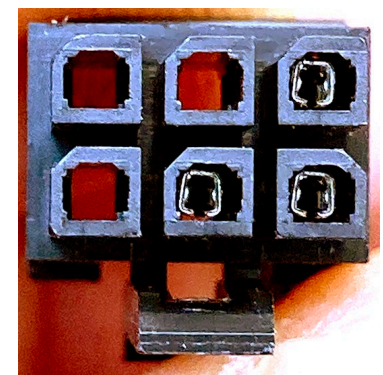

Figure 9
- Using electrical contact cleaner, clean the contacts on **BOTH** ends of the CAN 8076441 cable that connects both controllers (with the female pins) (see Figure 9).